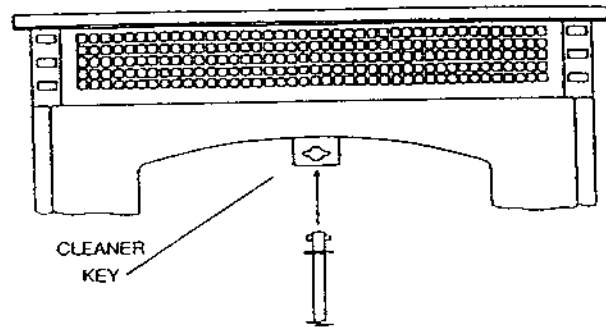

FIGURE 10
- a. The stove is designed with a built in heat exchange tube cleaner. This should be used every two or three days to remove accumulated ash on the tubes, which reduces heat transfer. Insert tool in cleaner key (see figure 10). Twist, move backwards and forwards several times. Leave key at front of stove.
- b. Three (3) cover plates in the firebox can be removed for periodic cleaning. The one on each side of the firebox allows access to vacuum ashes in the chamber surrounding firebox. The cover plate on the rear firebox wall allows access to the combustion blower.